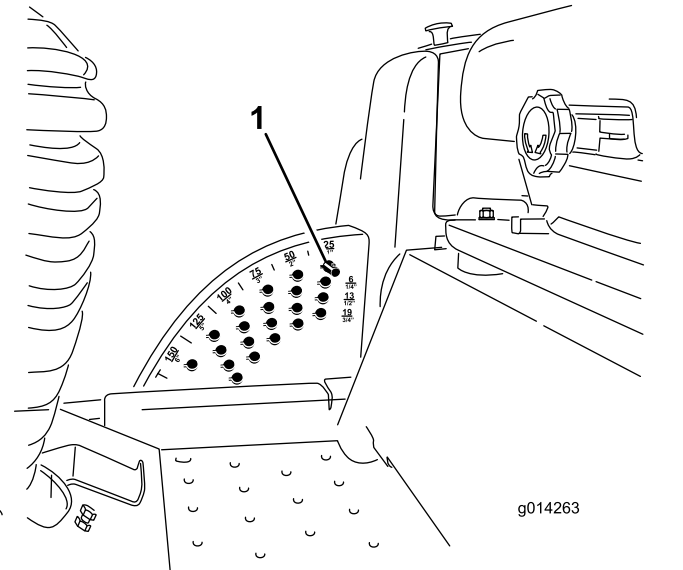

Figure 21
the pin, and rotate it down to lock it in place (Figure 21).
Note: There are 4 rows of hole positions (Figure 21). The top row gives you the height of cut listed above the pin. The second row down gives you the height listed plus 6 mm (1/4 inch). The third row down gives you the height listed plus 12 mm (1/2 inch). The bottom row gives you the height listed plus 18 mm (3/4 inch). For the 15.8 cm (6 inches) position, there is only 1 hole, located in the second row. This does not add 6 mm (1/4 inch) to the 15.8 cm (6 inches) position.
1. With the engine running, push back the deck-lift switch until the cutting unit is fully raised, and **release the switch immediately** as shown in Figure 21.
2. Rotate the height-of-cut pin until the nub on it lines up with the slots in the holes in the height-of-cut bracket and remove it (Figure 21).